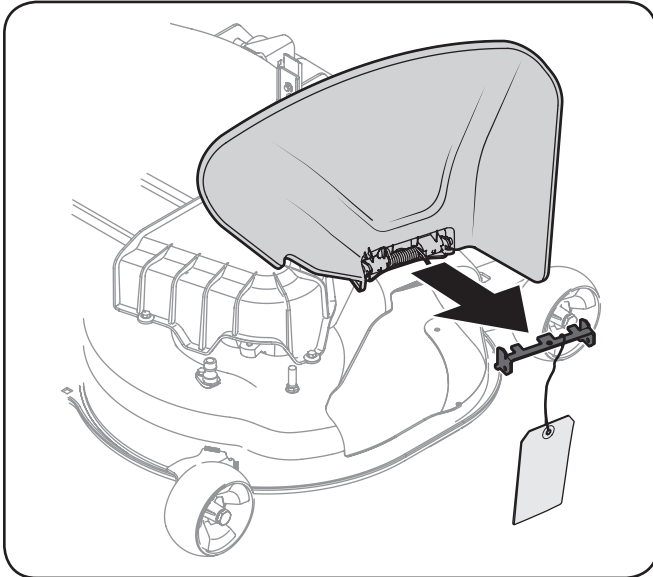

Figure 3-6
7. Holding the chute deflector fully upward, remove the shipping brace. Lower the chute deflector and discard the shipping brace. See Figure 3-6.